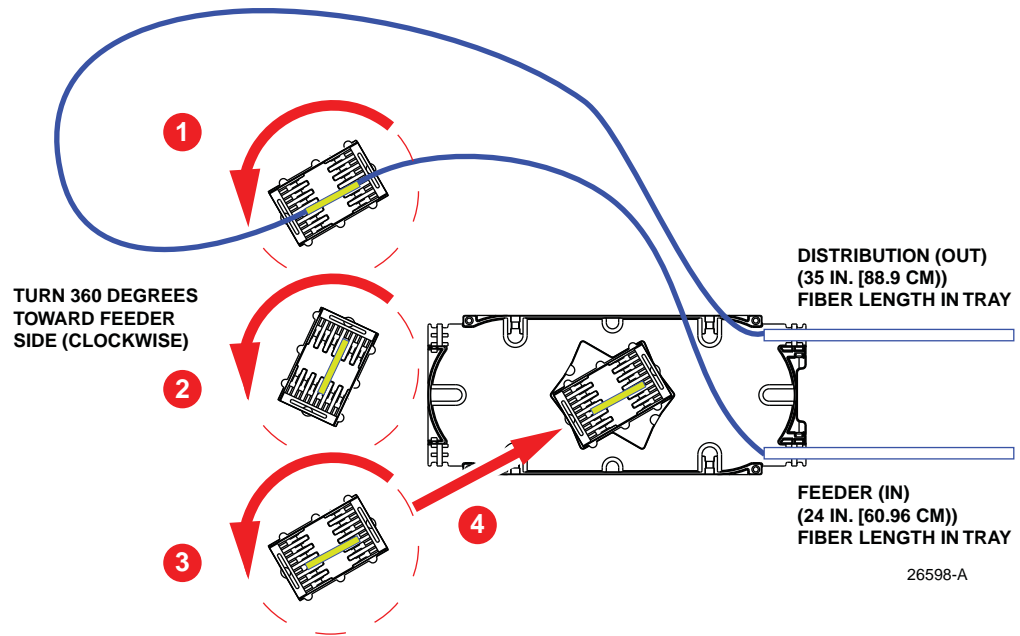
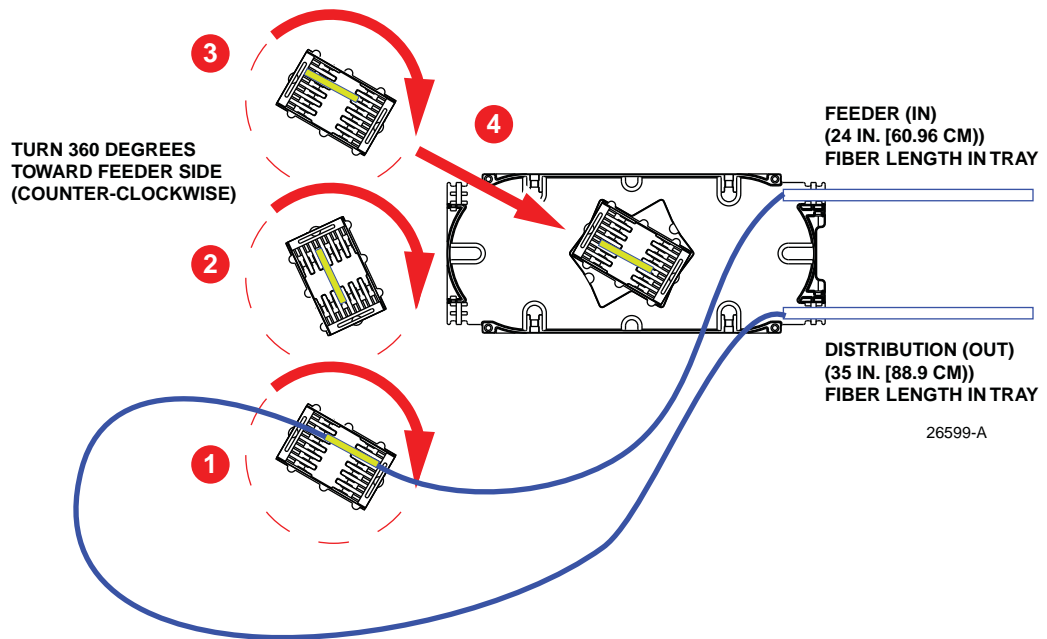

Figure 37. Winding the Splice Chip Back Into Tray (Distribution Fiber on Top, Feeder Fiber on Bottom)
Figure 38. Winding the Splice Chip Back Into Tray (Feeder Fiber on Top, Distribution Fiber on Bottom)
4. Ensure that the bare fiber lengths of the distribution and feeder fibers are as shown in Figure 37 (distribution fiber on top) or Figure 38 (feeder fiber on top). Note that the lengths are different for the distribution and feeder fibers.
6. For the configuration being used, wind the splice chip back into the splice tray as shown in Figure 37 or Figure 38.